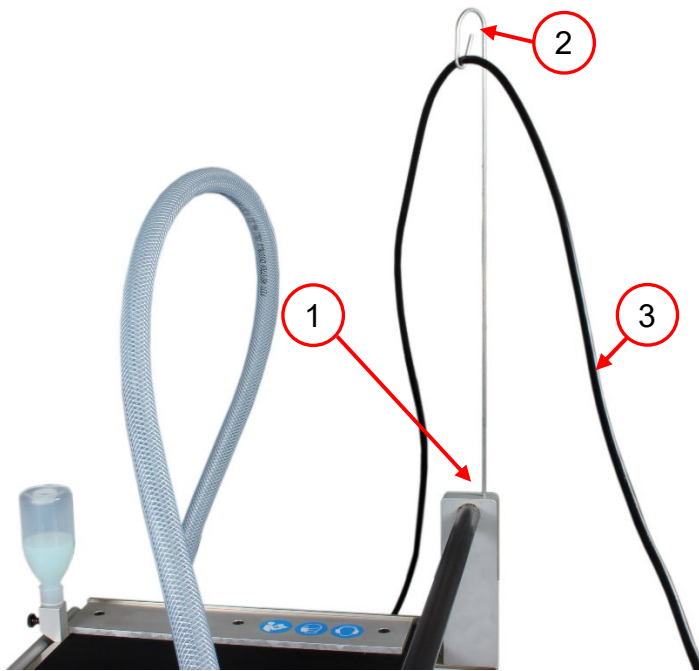

Figure 44 Fitting the VARGA VA 1 cable retaining spring
15. Hook the cable retaining spring (2, Figure 44) into the opening in the rear guide rod holder (1, Figure 44).
16. Hook the cable (3, Figure 44) into the cable retaining spring and plug it into the motor housing of the precision table saw.